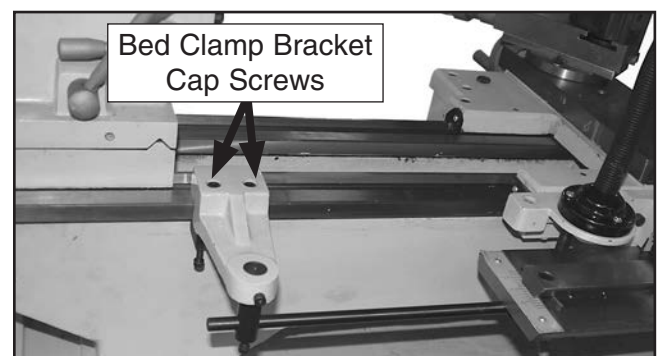

Figure 31. Location of bracket cap screws.
3. Loosen the bed clamp bracket cap screws (see **Figure 31**), position the tooling at approximately the center of the workpiece, then retighten the cap screws.